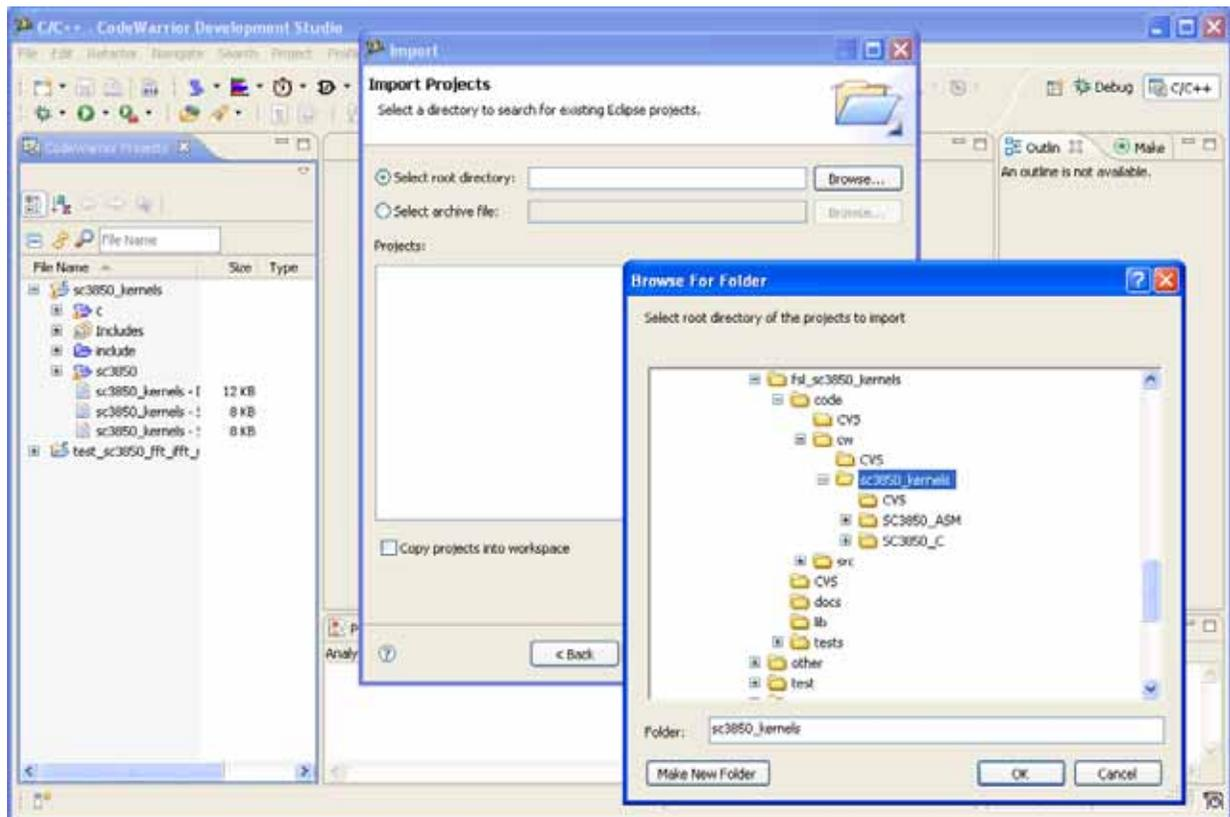

Figure 7. Browse to root directory of the library project
4. Click Browse. The Browse For Folder dialog box appears. Browse to root directory of the library project (fsl_sc3850_kernels\code\cw\sc3850_kernels), as shown in Figure 7.